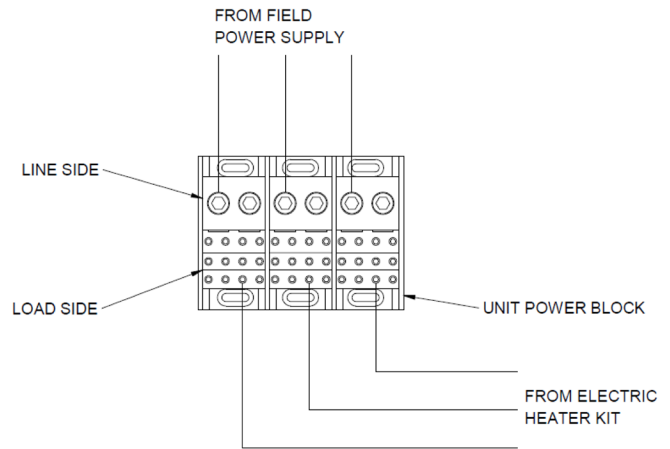

Figure 7
- Connect wire leads to the **load side** of the power block in the unit's control box as shown in Figure 7. Connect one wire lead per pole.